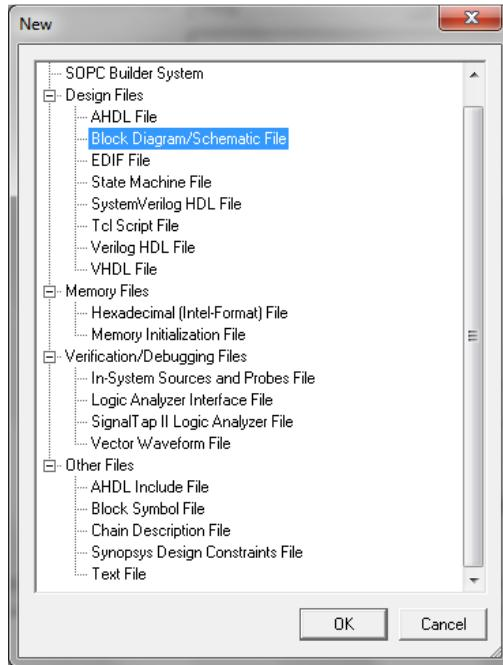

Fig. 5: New Block Diagram/Schematic File
4. Click File > New > Block Diagram/Schematic File (Fig. 5).